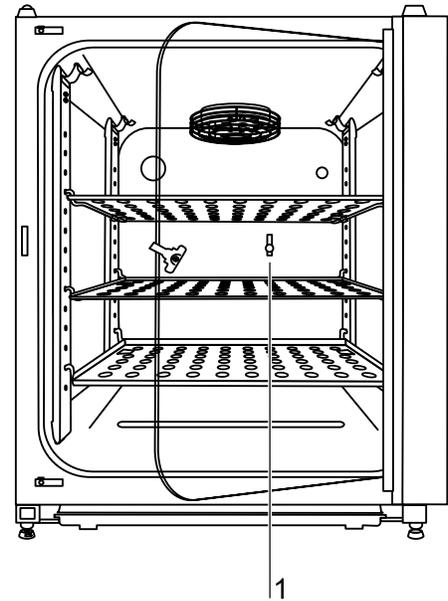

Fig. 21
3. **Fig. 21:** Insert the measuring instrument probe through the measurement opening [1] into the work space. Wait until the CO₂ value displayed by the instrument has stabilized.